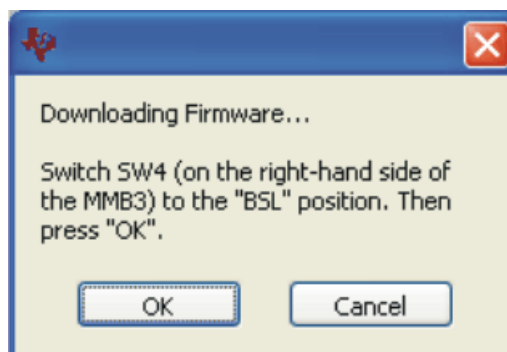

Figure 12. Firmware Download Message Box
- Step 5. The plug-in detects whether or not the board has the correct firmware loaded. The first time you use the ADS1246EVM-PDK, the firmware for the MMB3 may need to be downloaded to the MMB3. If the firmware must be loaded, you will see a screen similar to that shown in Figure 12.